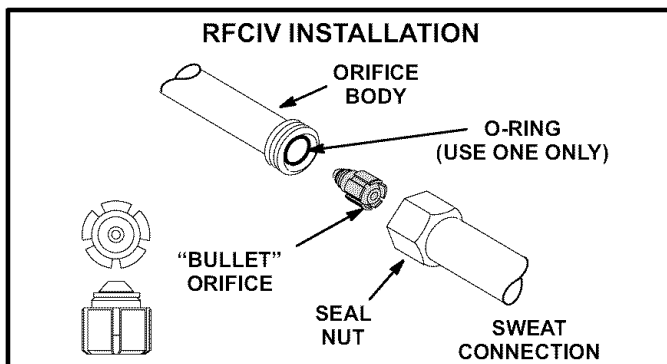

FIGURE 2
- 2- Install one of the o-rings supplied to the distributor orifice body. See figure 2.